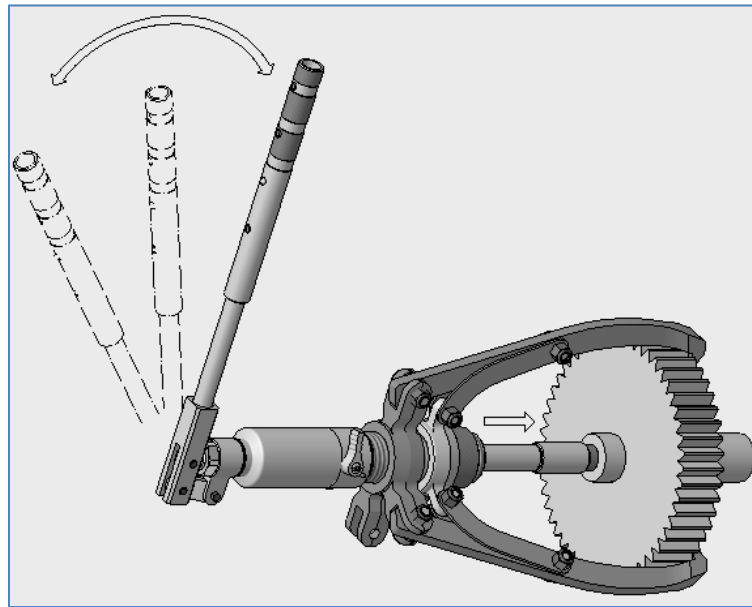

Figure 9 – Advancing the Piston
- 5.4.1 Hold the puller with one hand, pump the handle with the other hand and advance the piston until the part is removed. See Figure 9.